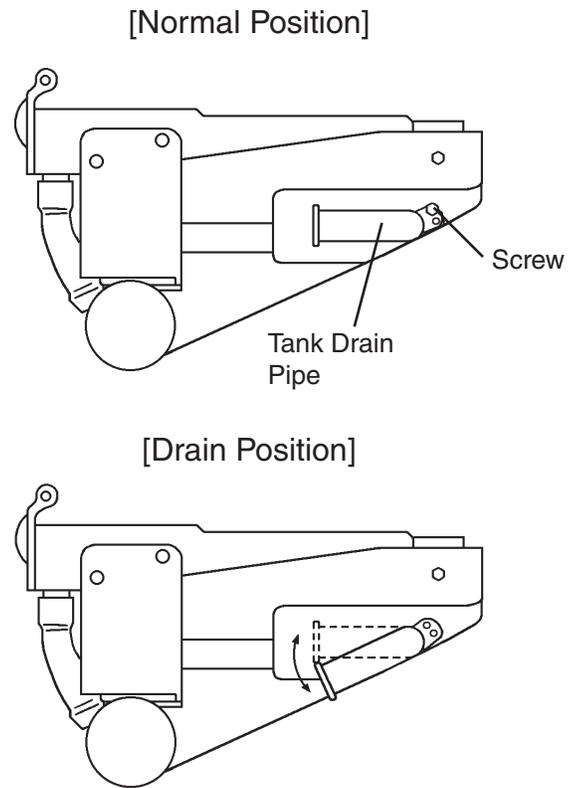

Fig. 6
- 3) Remove the screw and then move the tank drain pipe to the drain position. See Fig. 6.
- 10) Move the tank drain pipe to the normal position and then secure it with the screw. See Fig. 6.